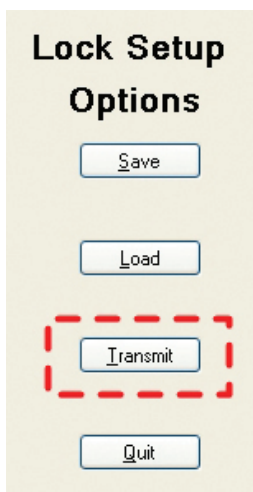

Figure 14
5. Click on the **Transmit** button in the software (Figure 14).